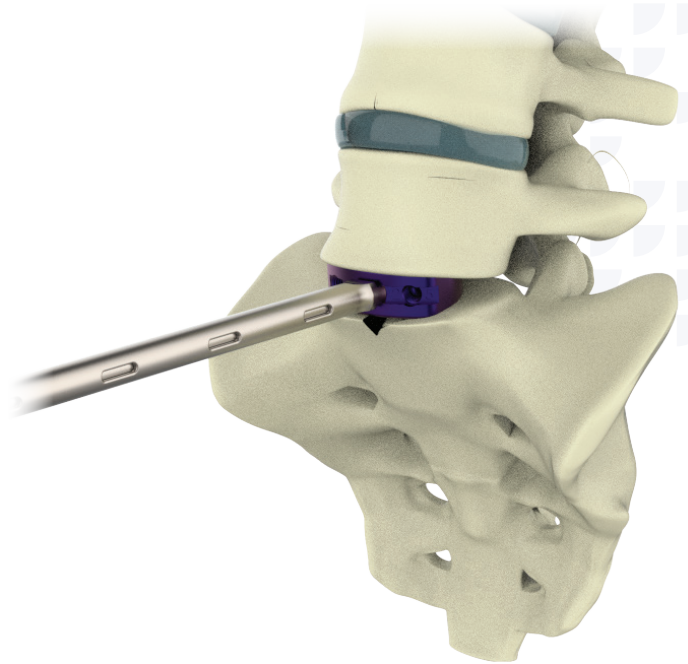

Figure 5a
- After the trial is locked on the inserter, it may be inserted into the disc space (Figure 5a). Under lateral fluoroscopy confirm the: